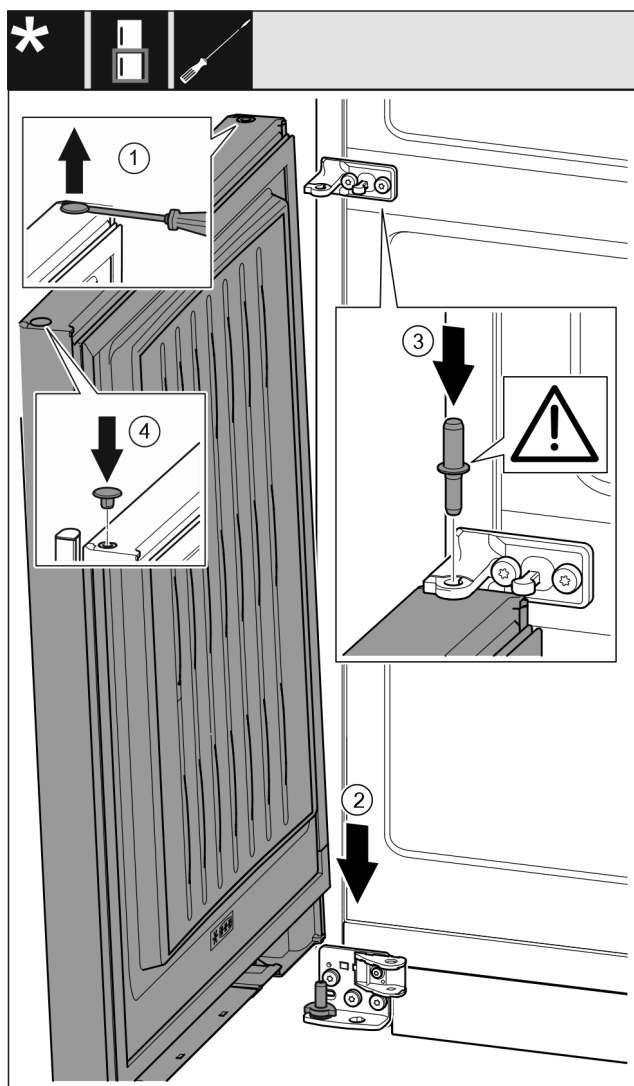

Fig. 42
- Use a slotted screwdriver to lift the plug Fig. 42 (1) carefully and pull it out.
- Lower the door Fig. 42 (2) onto the bottom bearing bolt.
- Insert the centre bearing bolt Fig. 42 (3) through the centre bearing block in the lower door. Ensure that the latching cam is pointing towards the rear.
- Re-insert the plug Fig. 42 (4) on the other door side.